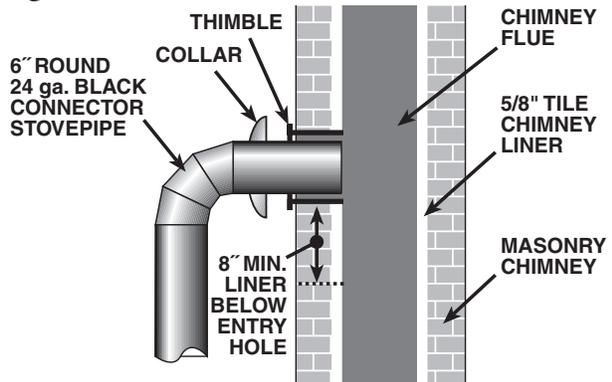

Fig. 6 - Masonry Chimney Connection
Before using an existing masonry chimney, clean the chimney, inspect the flue liner and make any repairs needed to be sure it is safe to use. Make repairs before attaching the stove. The connector stove pipe and fittings you will need to connect directly to a masonry chimney are shown in figure 6.
2. Install a metal or fire clay (5/8” minimum thickness) thimble. Make sure the thimble is flush with the inner surface of the chimney liner and does not protrude into the flue (see figure 6).